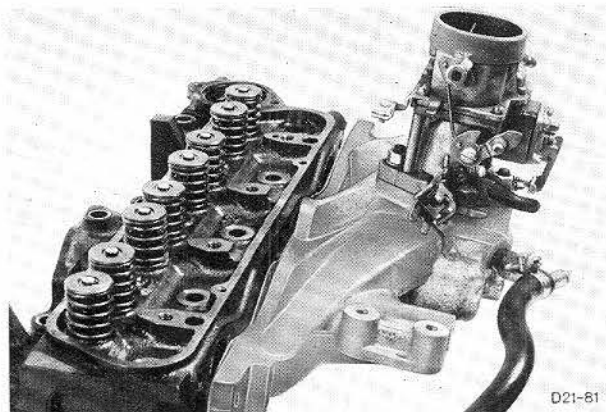
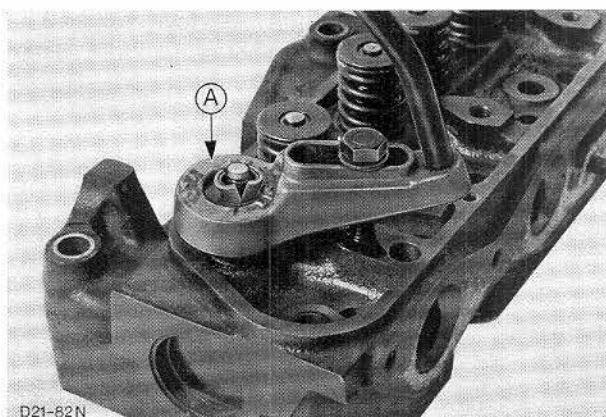

Fig. 76. Inlet manifold with carburettor.
Fig. 77. Removal of valve springs.
1. Remove inlet manifold (5 bolts) complete with carburettor and exhaust manifold (6 nuts) from cylinder head, Fig. 76.
2. Remove exhaust manifold studs (6) and temperature sender unit.
3. Remove valve springs and retainers using Special Tool G2-6513-A, Fig. 77, or 21-024 (with adaptor).